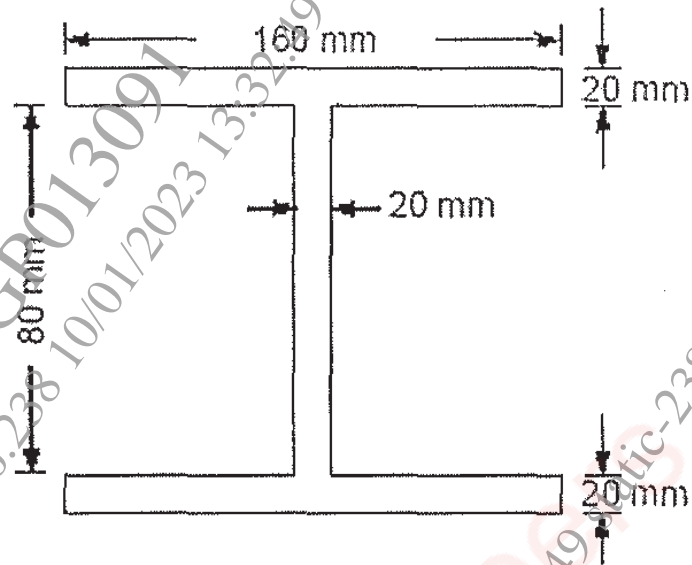

Figure 12
- b) Determine shape factor for I section shown in figure 12. [11]